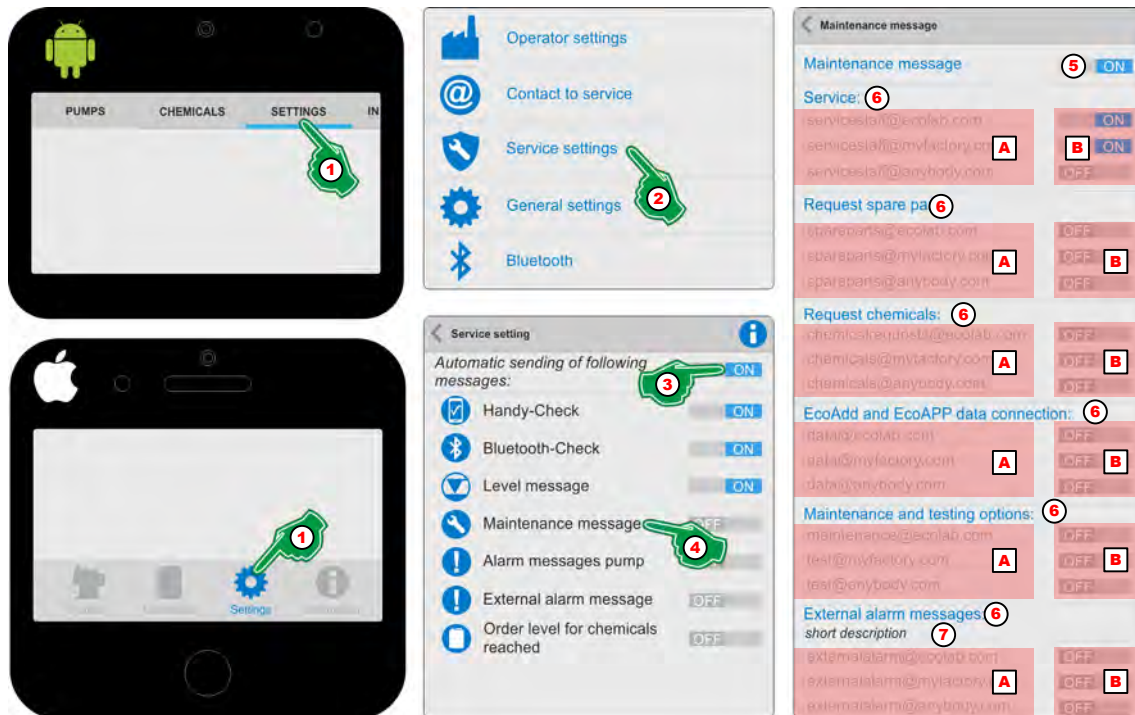

Fig. 48: 'Maintenance message'
1. Select [Settings] (Fig. 48, Pos. 1).
2. Select [Service Settings] (Fig. 48, Pos. 2).
3. Turn on 'Automatic sending of following messages' (Fig. 48, Pos. 3) **ON**.
4. The symbol or designation 'Maintenance message' (Fig. 48, Pos. 4).
5. Turn on 'Maintenance message' (Fig. 48, Pos. 5) **ON**.
6. Turn on desired service contacts (Fig. 48, Pos. A) **ON** (Fig. 48, Pos. B) .
7. To display errors when using an external controller (Fig. 48, , Pos. 7) introduce a brief description (Fig. 48, Pos. 8) for identification.